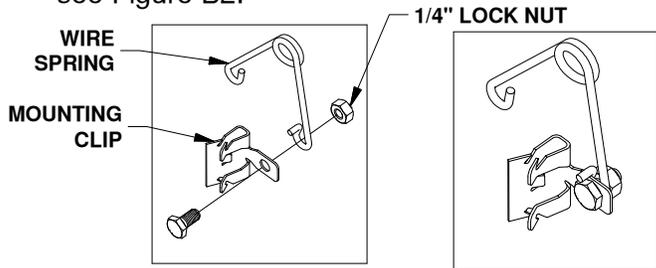

Figure B1:
- Assemble kit.** Locate the 1/4" cap screw and nut, along with the wire tension spring and mounting clip. Pass the 1/4" cap screw through the mounting clip and the wire spring as shown in Figure B1. Thread the 1/4" lock nut onto the 1/4" cap screw. Tighten the lock nut just enough that the spring will stay in place but will still be able to rotate around the bolt if needed, see Figure B2.